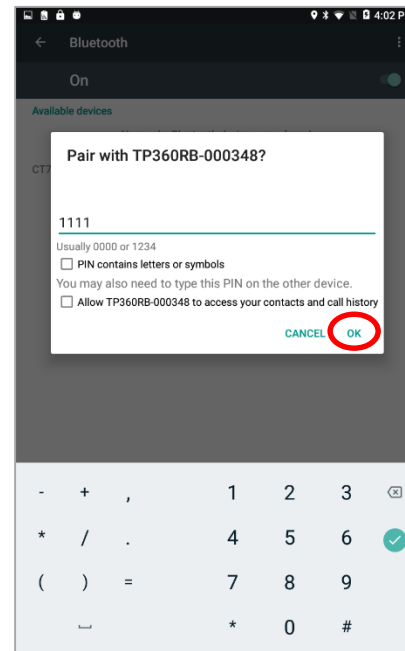

Figure 3
3. Select your TP360 from the list, enter the passcode “1111” and tap **OK** (Figure 3)